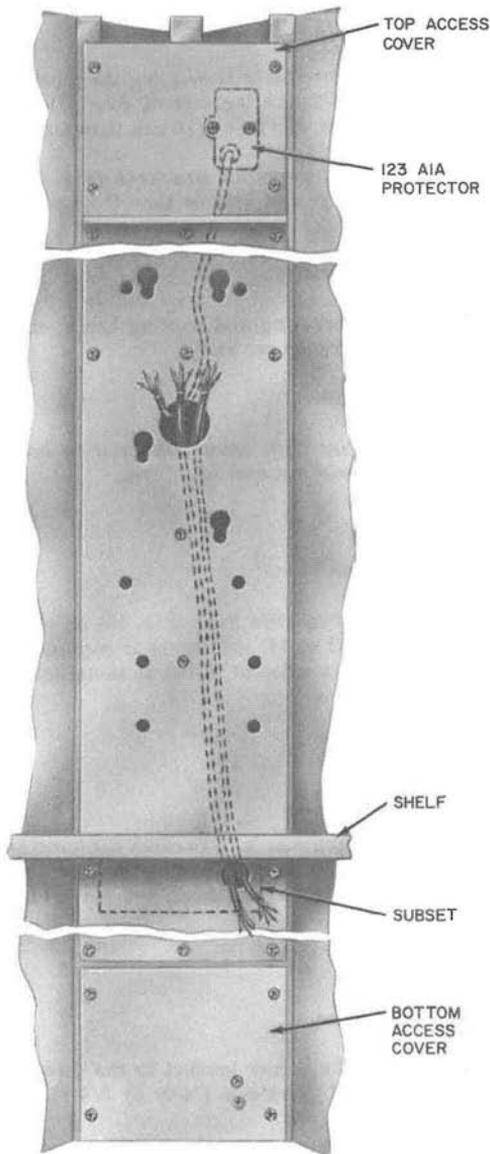

Fig. 17—Station Wiring
- 3.08 Station connection wires are furnished as shown in Fig. 17.